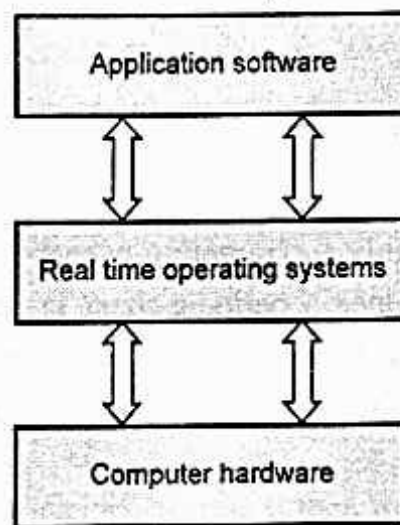

Fig. 1.2.1 : RTOS
- Fig. 1.2.1 shows hardware and software hierarchy in RTOS.